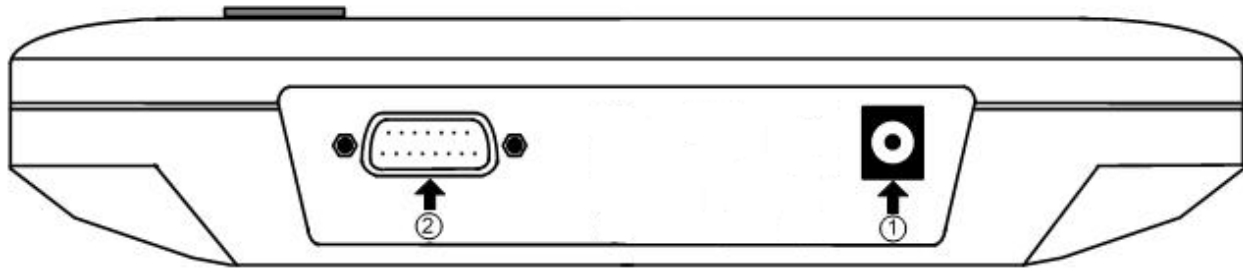

Fig. 1-2 UNO Connectors
This section contains important information concerning the installation and operation of the UNO. The UNO is delivered ready to use. Just install the 4 AA batteries, insert a detector head in the Probe Input Jack (#2 in Figure 1-2) and press the **I/O** key.
- 3- **Turn the UNO off** and connect a power detector head to the UNO using the **PROBE INPUT JACK** (see Fig. 1-2). It is recommended to turn the UNO off before connecting a new head in order to prevent any loss of information from the detector head's EEPROM.